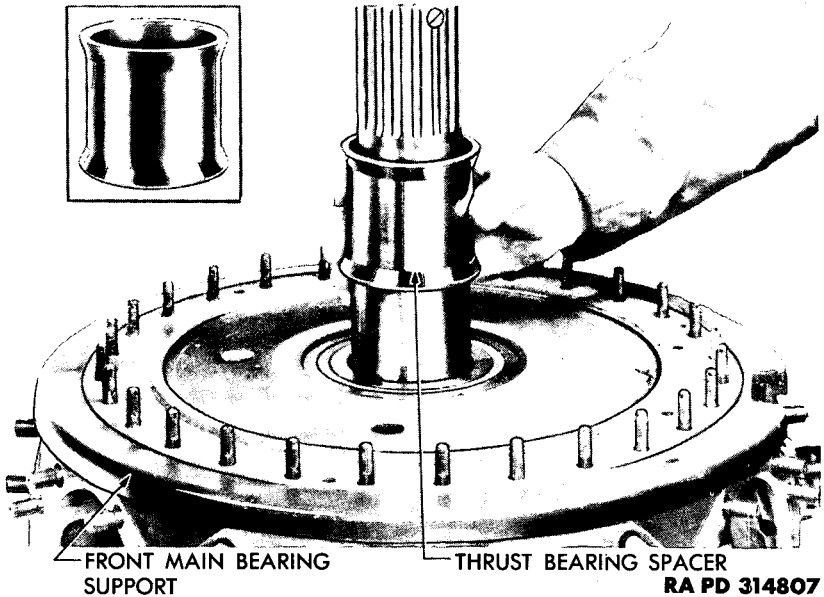

Figure 224 – Installing Thrust Bearing Spacer
j. Install Thrust Bearing Spacer. With either end down, place thrust bearing spacer over crankshaft (fig. 224). Spacer controls clearance between crankshaft rear crank and rear main bearing.